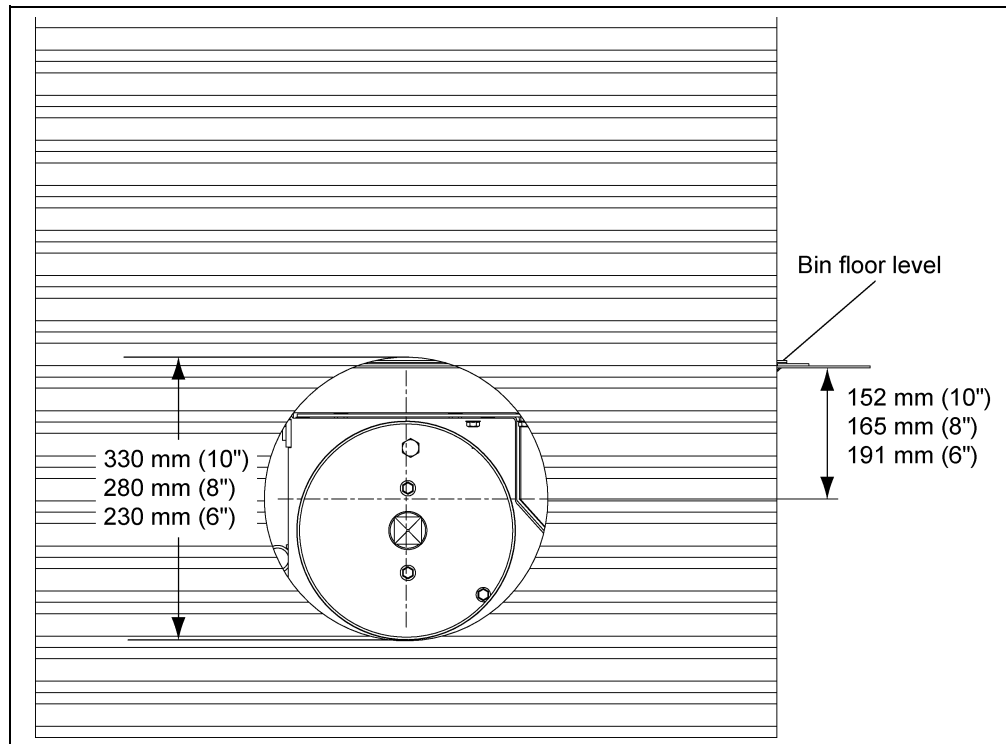

Figure 4E Wall Cut-Out
1. Cut an opening in the bin wall for the unloading tube to pass through. See chart on Page 18 for hole information. (See Figure 4E.)